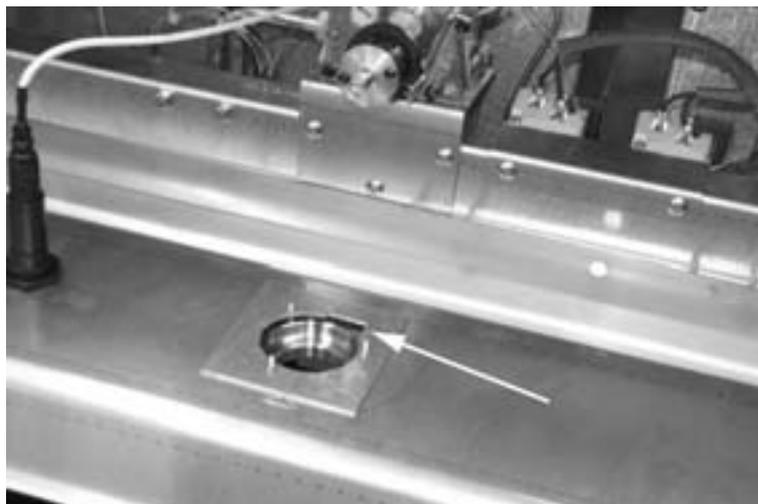

Fig. 11
- replace the control panel and make sure the guide collar is in the position shown in Fig. 11;